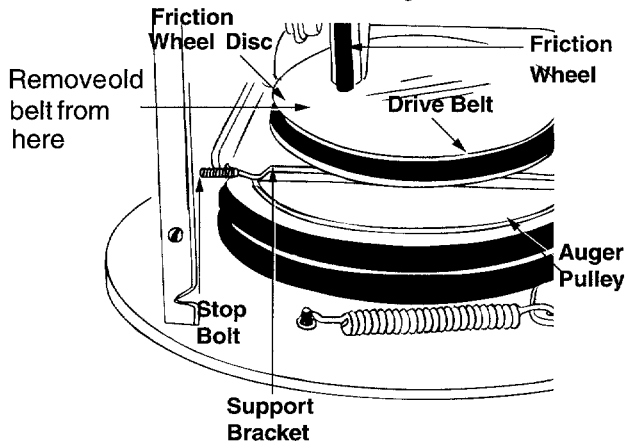

Figure 26
- Pulling the idler pulley upward, roll the belt off the idler pulley and the engine pulley and lift belt off friction wheel disc. See Figure 26.
- Back out the stop bolt until the support bracket drops on the auger pulley. See Figure 26.
- Slip belt between friction wheel and friction disc plate and remove the belt. See Figure 26.
NOTE: The support bracket must rest on the stop bolt after the new belt has been assembled. See Figure 26.